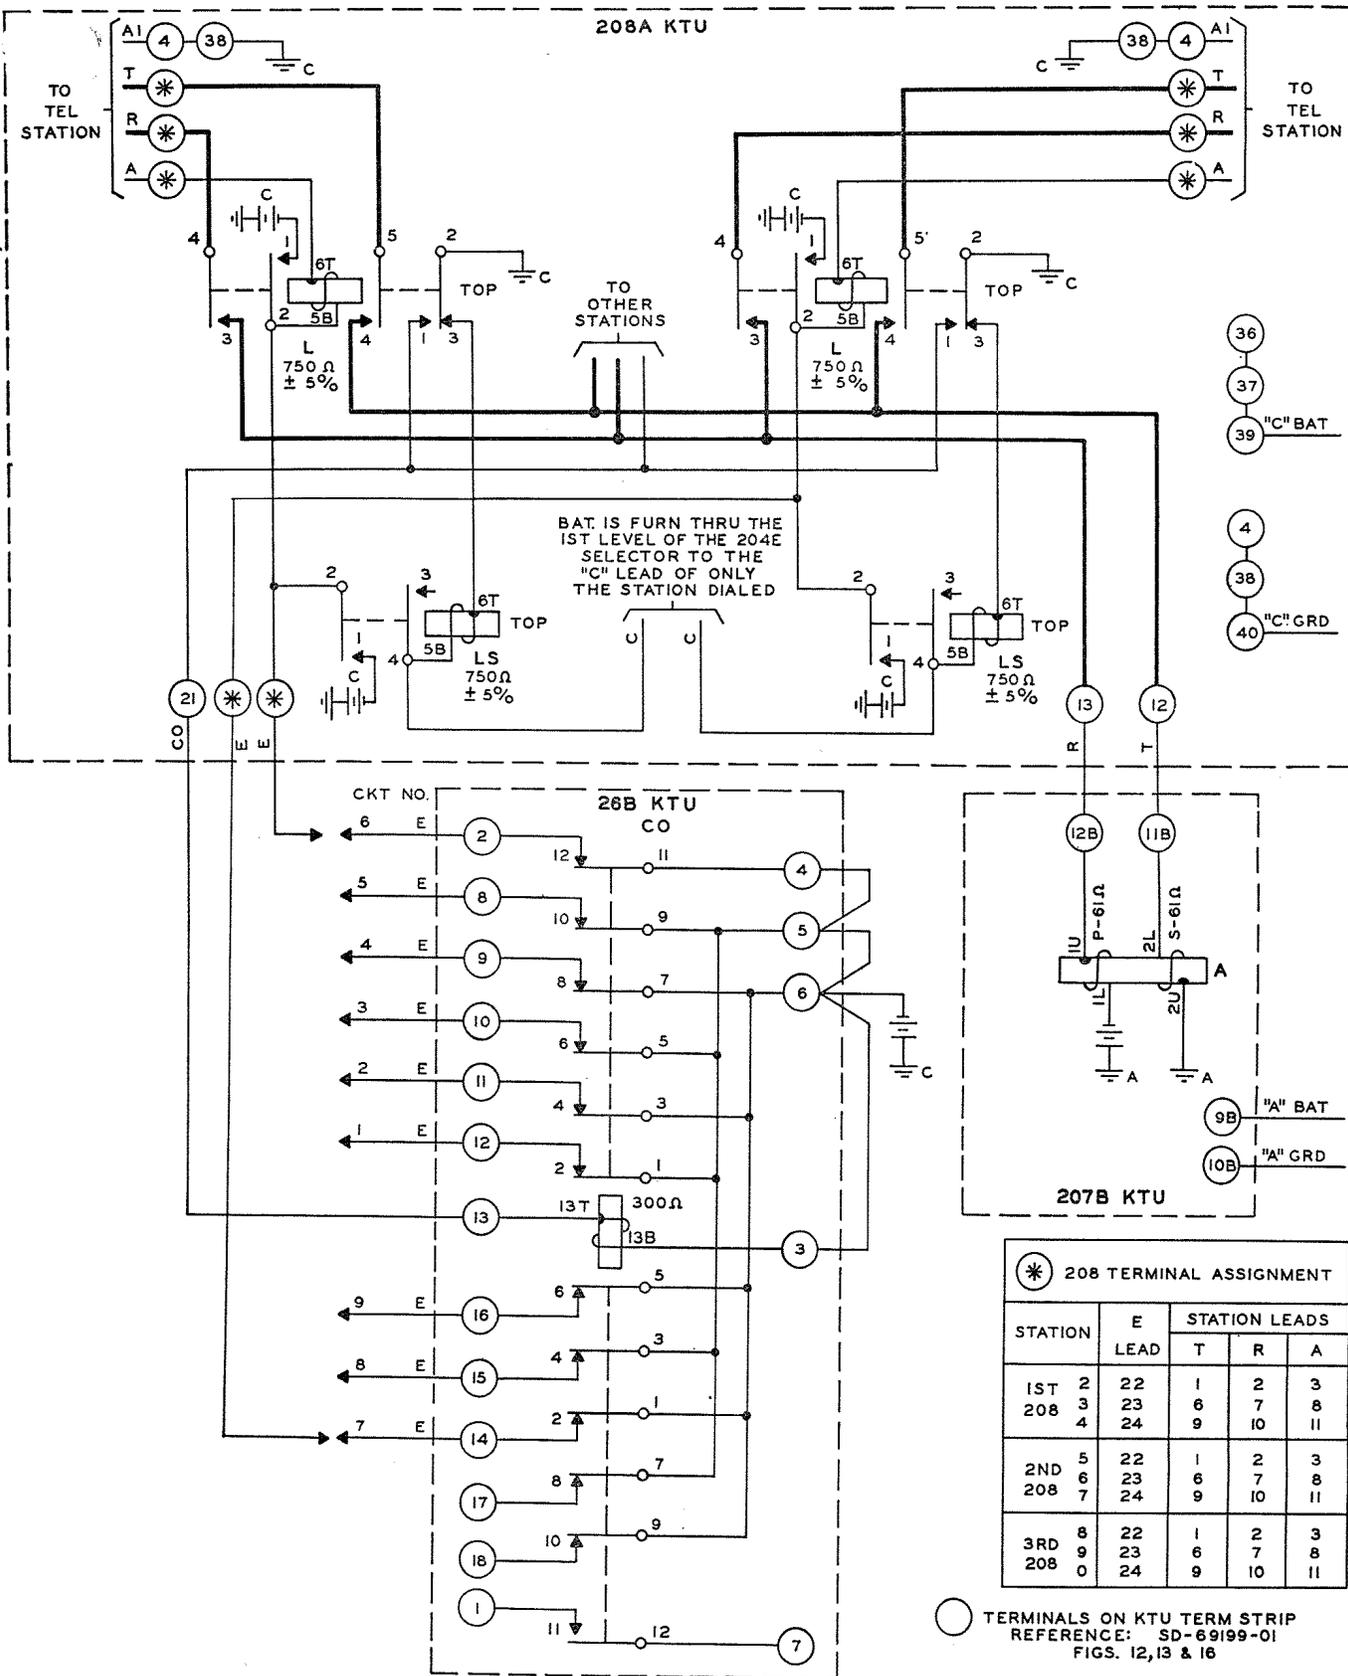

FIG. 30—AUTOMATIC CUTOFF OF DIAL SELECTIVE INTERCOMMUNICATING LINE CIRCUIT—26B, 207B, AND 208B KEY TELEPHONE UNITS
**1.01** This addendum supplements Section C53.159, Issue 2. It includes connecting information pertaining to radio signal demodulation suppression and deletes a portion of the note which appears below each figure in the section. It also includes Figs. 30, 31, 32, and 33 showing the new 207B key telephone unit.